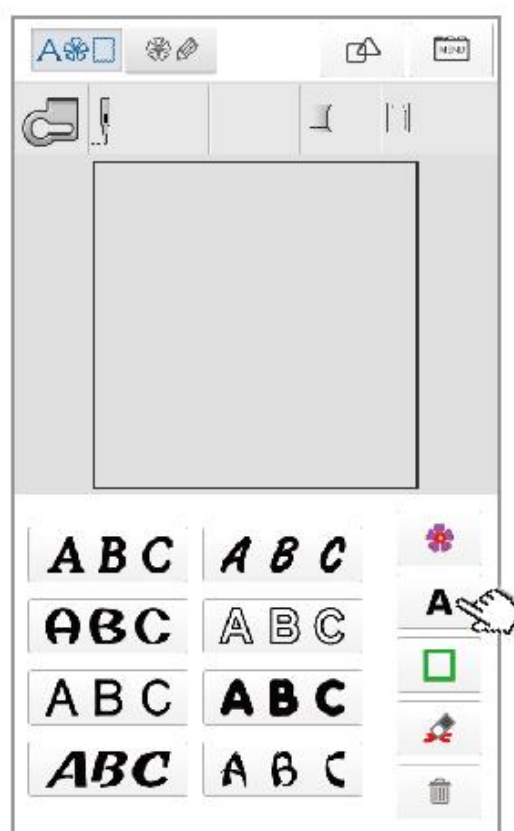

Figure 9
① Click "A" to enter the font selection interface in Figure 9.